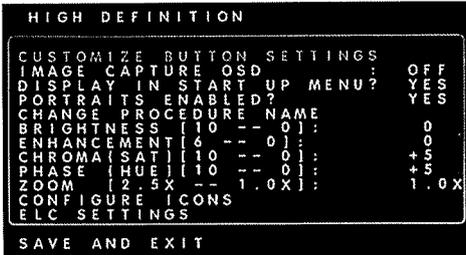

Figure 36. CUSTOMIZE PROCEDURE SETTINGS screen
3. Navigate to the procedure to be customized and press **Select** to open that procedure's customization screen. The CUSTOMIZE BUTTON SETTINGS option will blink (Figure 36).